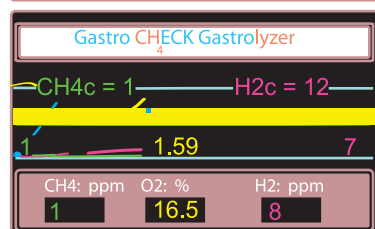

fig.10
8. The monitor will display real time values of the patient's breath hydrogen and Methane as well as the oxygen value. The monitor will also display the peak values as well as the compensated values. (fig. 10)